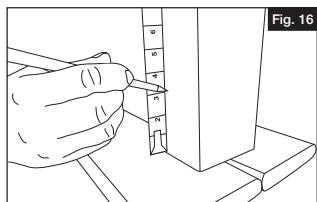

Fig. 16
- Establish the placement of the bottom of the level panel based on your desired rail height. Mark a line on your mounting surface at this height plus  $1\frac{1}{8}$ " to represent the top of the mounting bracket (Fig. 16).